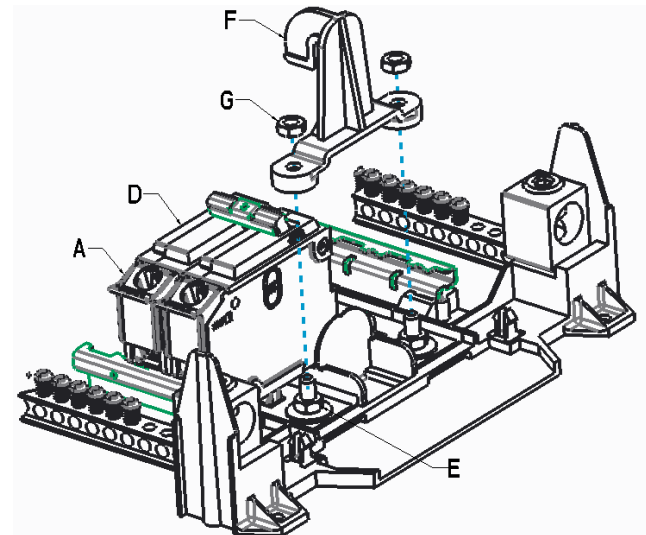

Figure 2: Install Retainer to secure breaker
4. Install the retainer (F), over existing nuts (E), and secure with the 2 nuts (G) provided with the kit. Tighten to 35 lb-in (4Nm). See figure 2